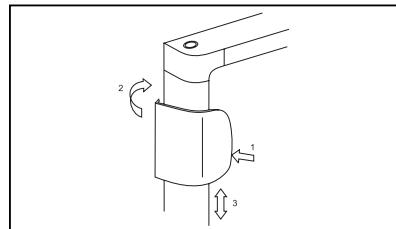

Figure 15.
10. Assembly of door handle (Fig. 15.)